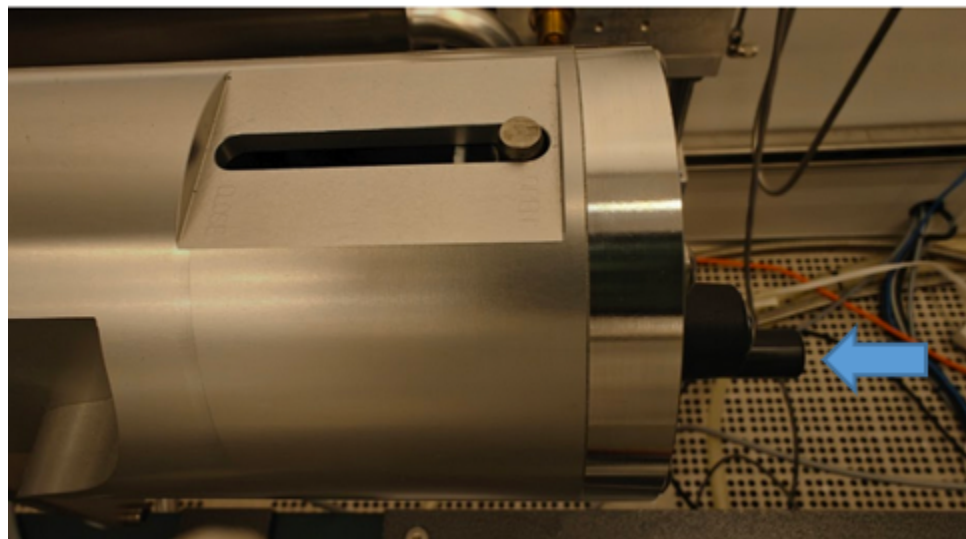

Figure 11: Blue arrow shows where the lever to adjust the bottom cryo valve opening is located. This is behind the materials turret.
- b. See figure 11 for the location of the bottom cryo lever.